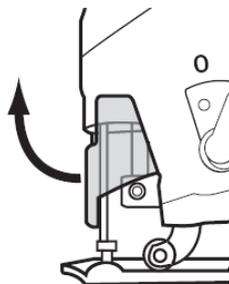

fig. 1
1. Remove the hex key (4) from the holder.
2. Move the cover (9) up. (Fig.1 and 2)